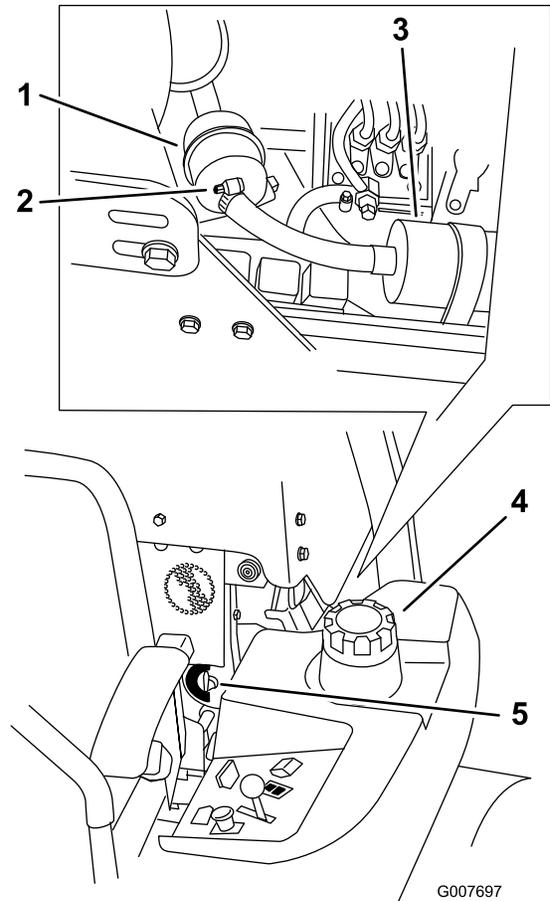

Figure 47
4. Close the fuel shutoff valve (Figure 47).
5. Loosen the 2 hose clamps and disconnect the fuel lines from the fuel filter (Figure 47).
6. Install a new filter. Connect the fuel lines to the fuel filter and install the 2 hose clamps (Figure 47).